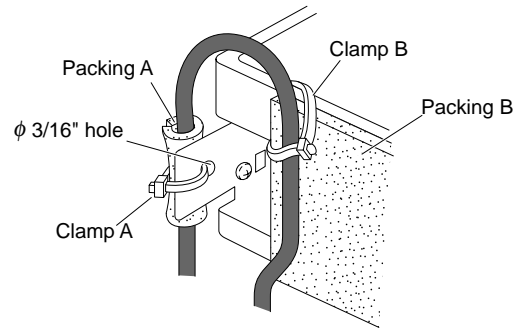

Fig. 31b
3. Before attaching the tube assy to the mounting valve, wrap the supplied packing A (3/4" x 1-3/8" x T3/16") onto the 5/16" tube of the tube assy to avoid direct contact of the tube assy with the mounting valve. (Fig. 31b, 31c)
4. Similarly arrange the supplied packing B (2-3/8" × 1-3/16" × T3/16") on the mounting valve. (Fig. 31b, 31c)
5. Insert clamp A in the extracted round hole (ϕ 3/16") on the mounting valve, and bind the tube assy and packing A. (Fig. 31b)